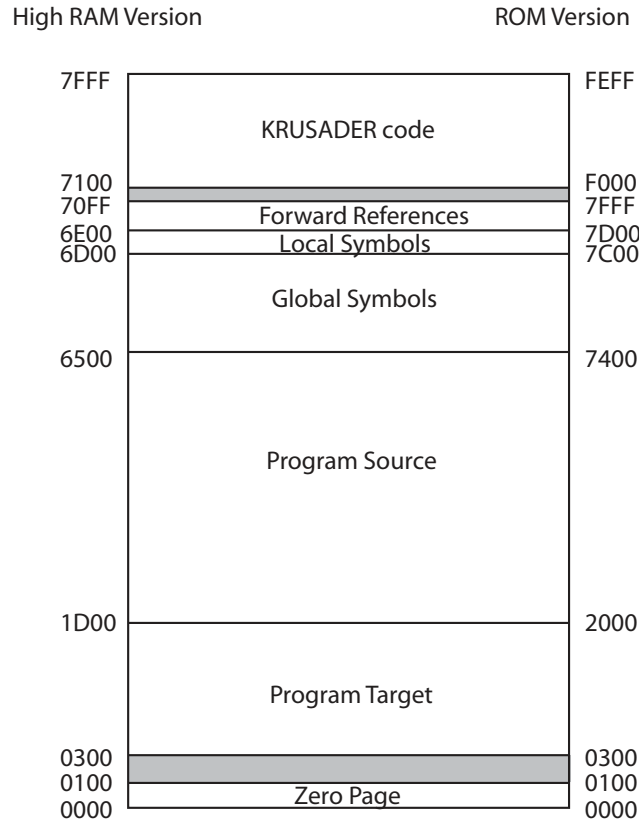

Figure 1: Memory map for both the high RAM and the ROM versions of KRUSADER.
Proper operation of the assembler requires a number of things to reside in the machine's memory. There is the assembler code itself, the program source code, the assembled code, and various symbol tables. The default arrangement for both the high RAM and the ROM versions of KRUSADER are shown in figure 1. The local symbol and forward reference tables take up a fixed 1K of space, with 256 bytes taken up by the locals, and the remainder for the forward references. The global symbol table grows downward to a maximum of 2K (corresponding to 256 symbols). The two most important source locations have both been mentioned already, and are \$7100(\$F000) for initial program entry, and \$711C(\$F01C) for returning to the shell.
**\$FF**. These hold the high byte of the default assembled code storage location, the high byte of the local/global symbol table boundary, and the low and high bytes of the source code storage location respectively (See figure 1 for the appropriate values). Additionally, locations **\$E9**, **\$EA** and **\$EB** are needed if the shell is to have access to the global symbol table for various commands (see table 1), and locations **\$0F**, **\$10**, **\$11**, **\$E0** to **\$E8**, and **\$F0** to **\$F6** are used by the mini-monitor. If you wish to use all the features of KRUSADER while developing assembly language programs, it is wise to avoid using these locations in your programs. Replica 1 users need to beware of Apple 1 BASIC because it may overwrite several of these values, so they need to be restored before returning to the KRUSADER shell7.